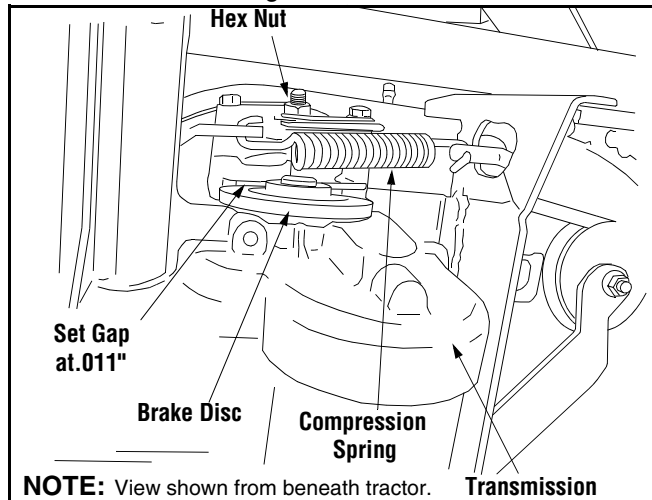

Figure 11
- Looking at the transmission from the right side of the tractor, locate the compression spring and brake disc. See Figure 11.
- Loosen, but do NOT remove, the hex nut found on the right side of the brake assembly. See Figure 11.